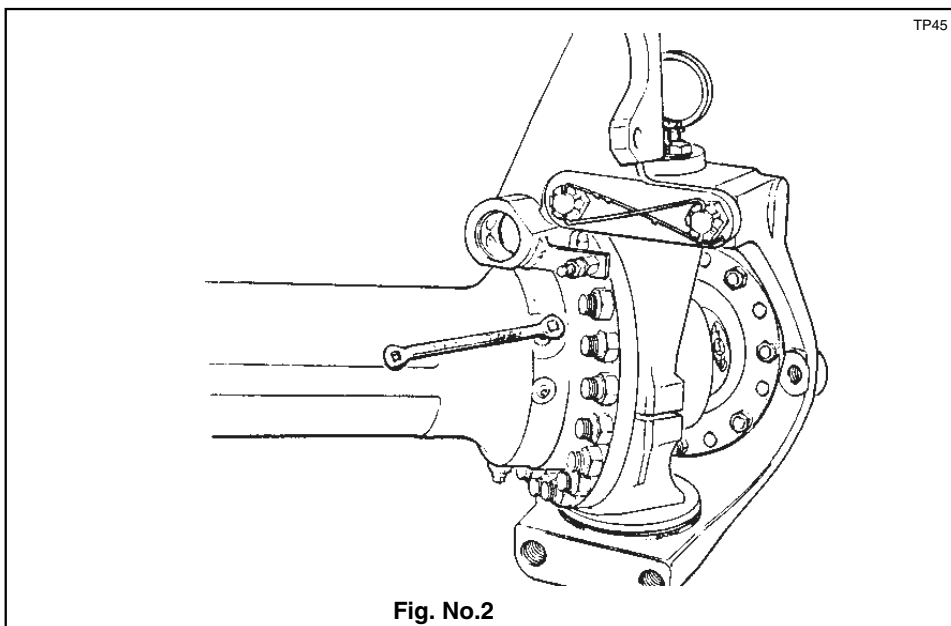

Fig. No.2
- 2.8 Unscrew and remove U.J. oil seal housing lockscREWS (114*) as shown in fig. no.2.